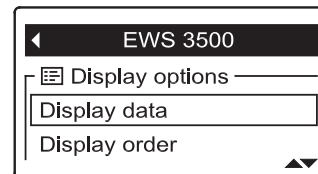

FIG. 64
3. Press the DOWN (▼) button to scroll through the menu options until **Display data** is highlighted in a box (See Figure 64).
8. When selections are complete, exit this menu by pressing the LEFT (◀) button. The display will go back to the device menu (Figure 64).